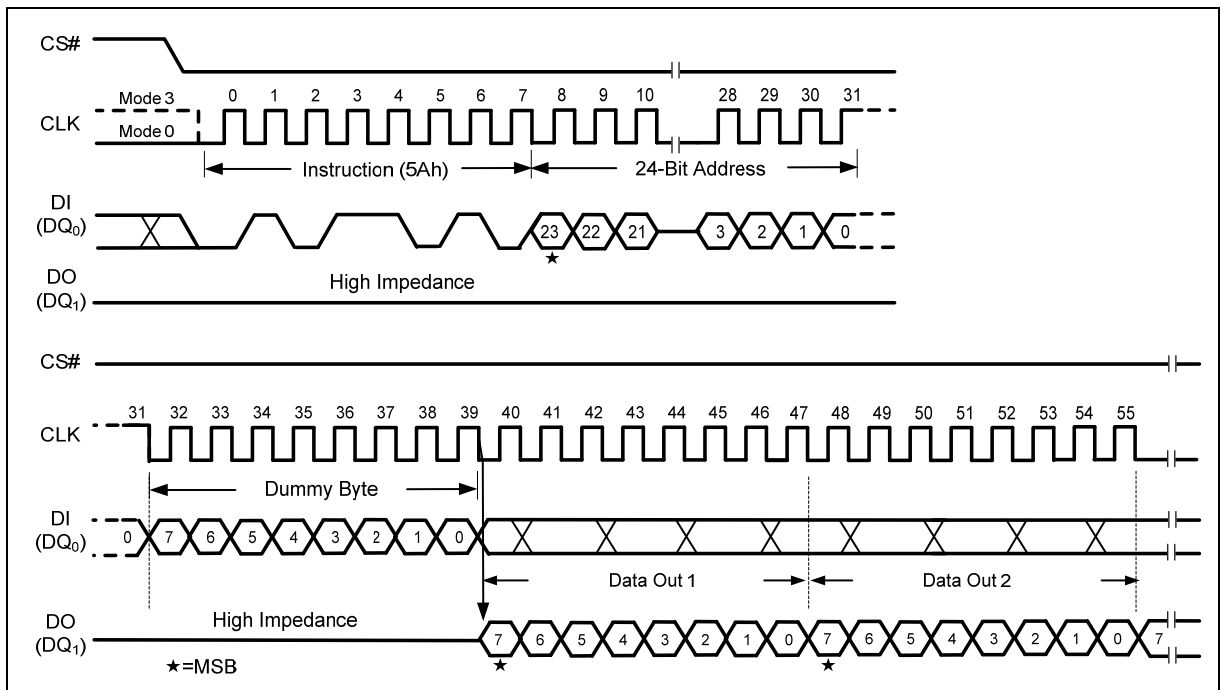

Figure 57 Read SFDP Register Instruction
The Read SFDP instruction is initiated by driving the /CS pin low and shifting the instruction code “5Ah” followed by a 24-bit address (A23-A0)(1) into the DI pin. Eight “dummy” clocks are also required before the SFDP register contents are shifted out on the falling edge of the 40th CLK with most significant bit (MSB) first as shown in Figure 57.